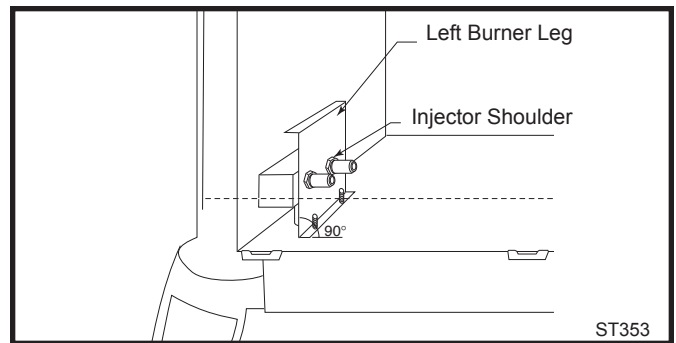

Fig. 40 Be sure to maintain 90° angle at left burner leg.
9. Refasten the two nuts and assemble the burner into the unit by sliding the burner in at an angle with the left side lower than the right side. Slide the left side onto the injectors. Lower the right hand side down into place. Make sure the burner is as far left as possible and the injector shoulders are inside the burner. NOTE: It is very critical to keep the left burner leg, which holds the injectors, at a 90° angle to the base. (Fig. 40) This keeps the orifices aligned with tubes on the inside of the burner. Failure to do so could affect the flame appearance and performance of the unit.